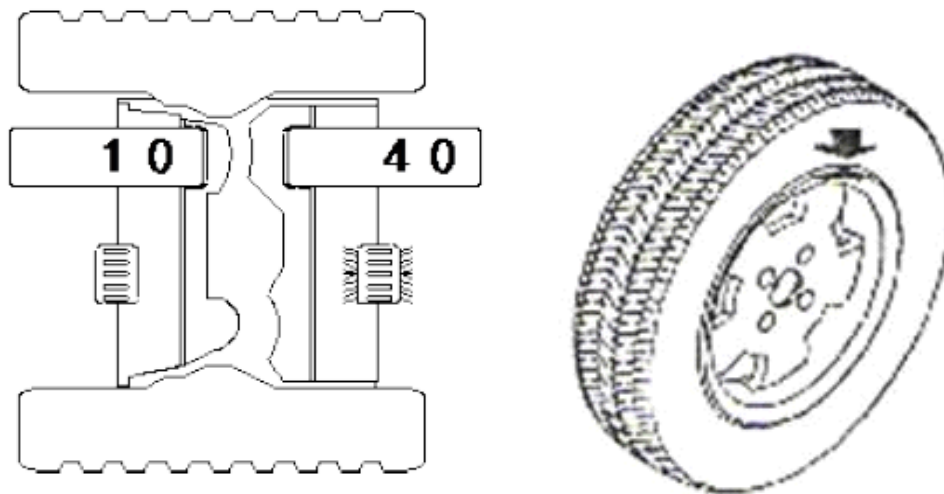

Figure 1.
5. Turn the wheel anticlockwise slowly and the indicators 2 and 4 will illuminate. Once an indicator is fully illuminated, lead can be placed on the rim alongside the illuminated indicator, in this case indicator 4 (outside of the rim). The lead should be posted on the outside of the rim at 12 o'clock on the upper side the rim. See figure 1: